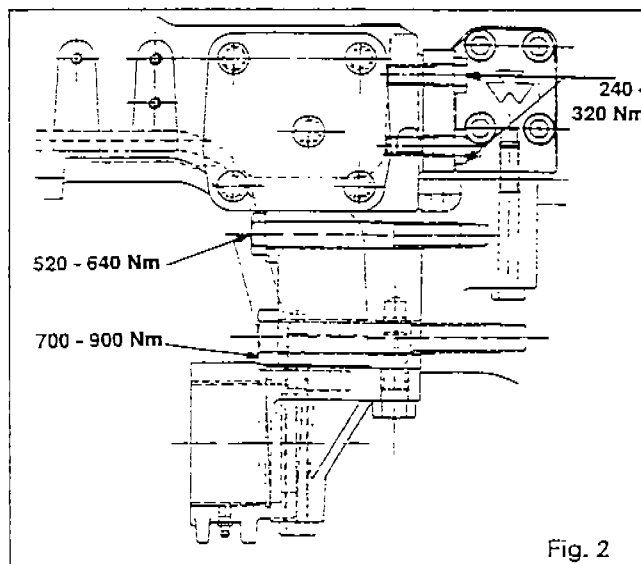

Fig. 2
14. Install the bolts and tighten to the torque specified in Fig. 2.